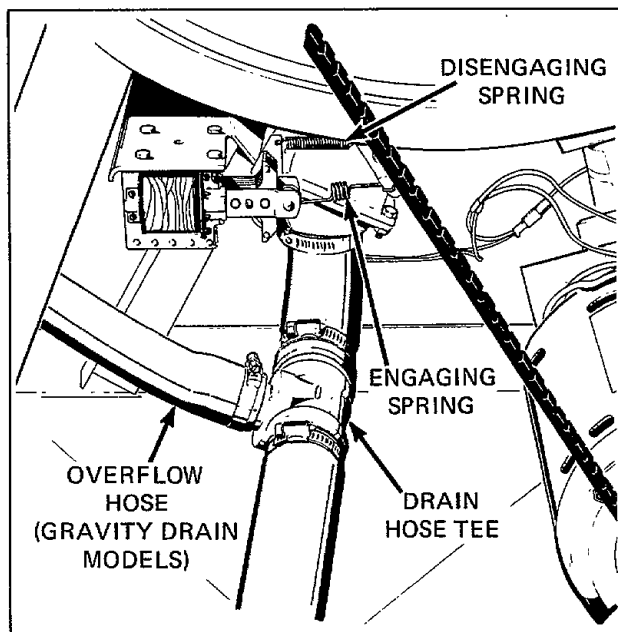

Figure 27
- e. Gravity Drain Models: Disconnect overflow hose from drain hose tee, *Figure 27*.